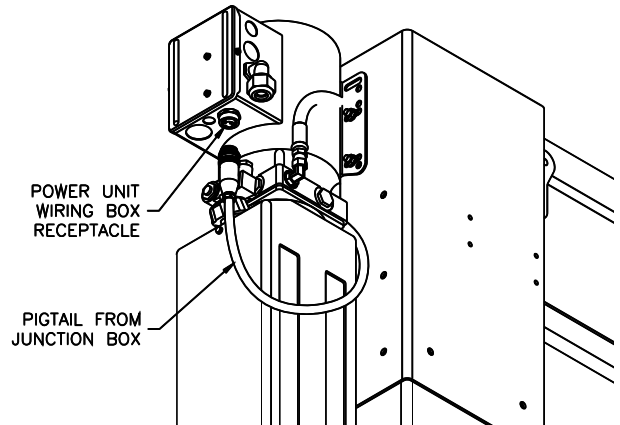

Fig 13 – Junction Box Connection to Power Unit
- 34) Route junction box pigtail through "T-slot" in back of Column Extension around to the front of the Power Unit. Insert plug into mating receptacle mounted to the bottom of the motor wiring box. Twist plug collar to lock in place, **Fig 13**.